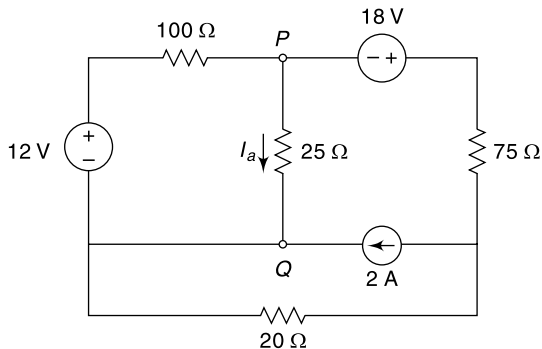

Fig. 4.120 Circuit of Ex. 4.89
4.89 In the circuit shown in Fig. 4.120 find current I_a .